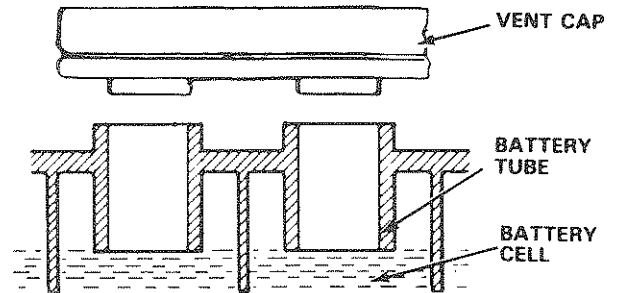

FIGURE 1
- Fill battery with battery acid to bottoms of tubes in cells (Fig. 1). NOTE: DO NOT OVERFILL. OVERFILLING WILL RESULT IN DAMAGE TO TRACTOR.